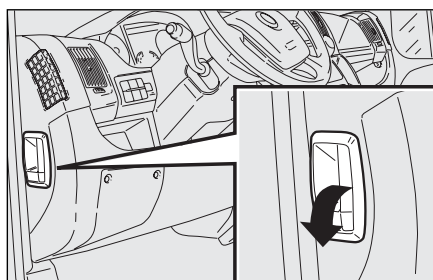

fig. 100
- ☐ pull lever **fig. 100** in the direction of the arrow;